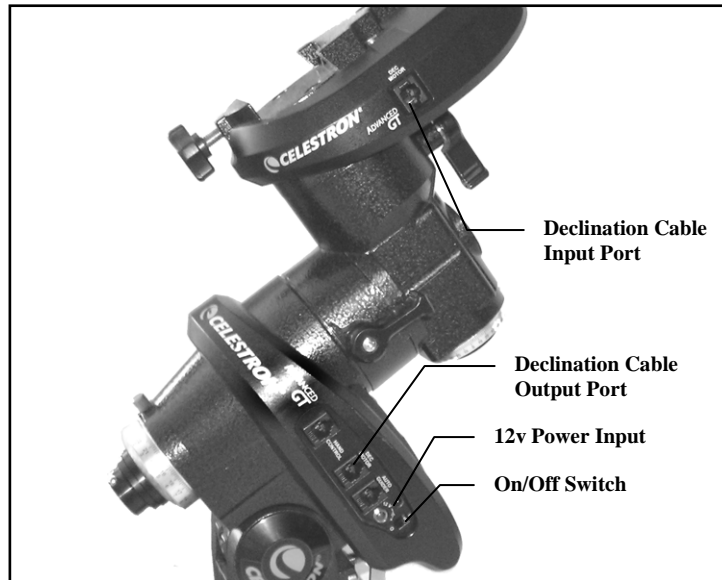

Figure 2-15
- Locate the Declination cable and plug one end of the cable into the port on the electronics panel labeled *DEC Port* and plug the other end of the cable into the port located on the declination motor drive (see Fig 2-15).